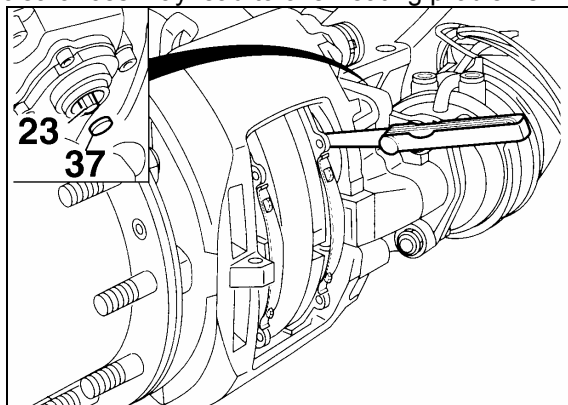

FIGURE 37: RUNNING CLEARANCE
- Insert a feeler gauge 0.028 inch (0.7 mm thickness) between tappet and pad backplate (Fig. 37). Turn adjuster pinion clockwise until 0.028 inch (0.7 mm) clearance is achieved. Replace cap (37) (Prévost # 641313).
- To ensure a constant running clearance between the rotor and pads, the brake is equipped with an automatic adjuster unit. When the pads and rotor wear, the running clearance between the pads and rotor increases. The adjuster (23, Fig. 37) and turning device turn the threaded tubes by the amount necessary to compensate the wear.